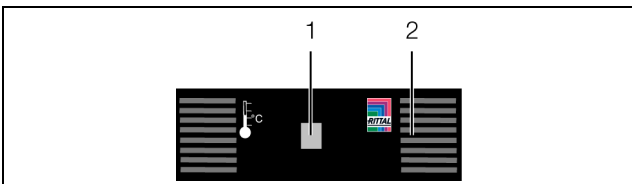

Fig. 7: Front of the temperature sensor
- If necessary, connect the external temperature sensor to the temperature sensor connector on the front (fig. 7, item 1).